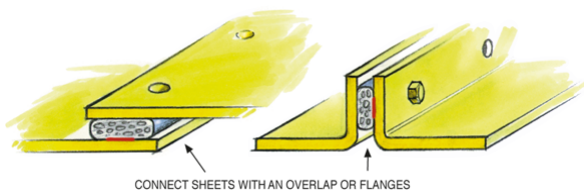
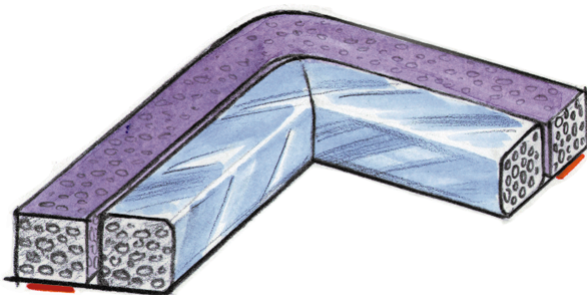

Figure 26.1 : Examples of right dimensions and a stiff construction to prevent openings
Figure 26.2 : A EMI gasket combined with a environmental seal can prevent corrosion and water coming into the device
- It has the right dimensions (fig. 26.1) **32**
- The construction is stiff enough (fig. 26.1) **41 / 44**
- It is and will remain free of corrosion (fig. 26.2) **33**
28 To reduce cost, **the connection can be improved by using a conductive gasket**, which will fill in any gaps. A gasket can also be used to seal against water or to meet other IP demands (fig. 26.1) (fig. 26.2).